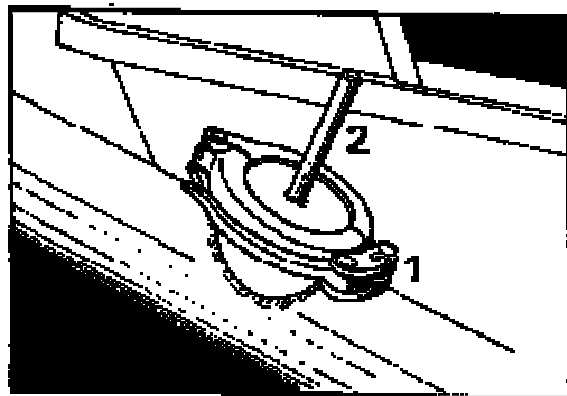

Fig.: 10
- Loosen top cover 2 (Fig.: 10) and remove cleaning ball.